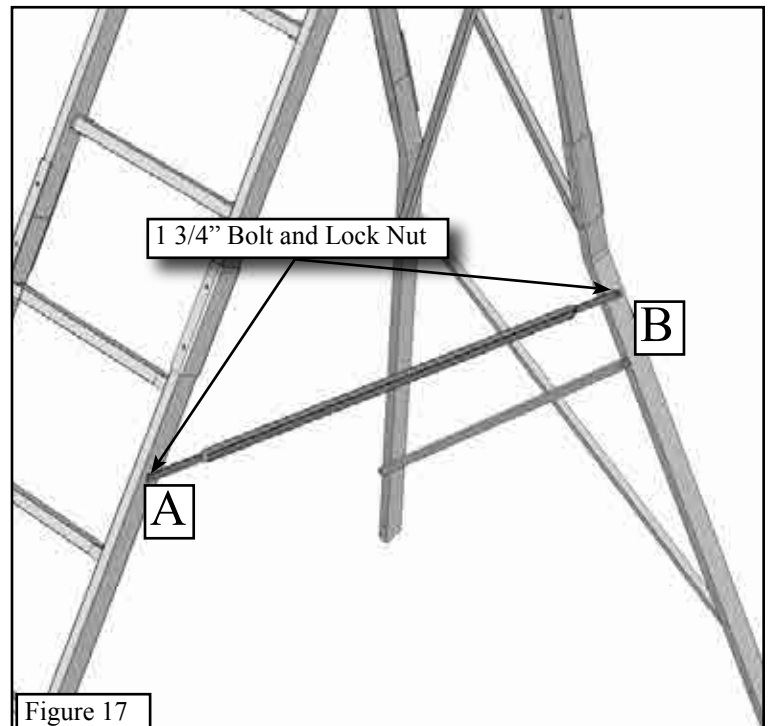

Figure 17
Step 2. Position one cross brace between the Ladder Assembly and the Support Assembly as shown in **Figure 17**. Hand tighten Bolt B using one 1 3/4" bolt and lock nut.